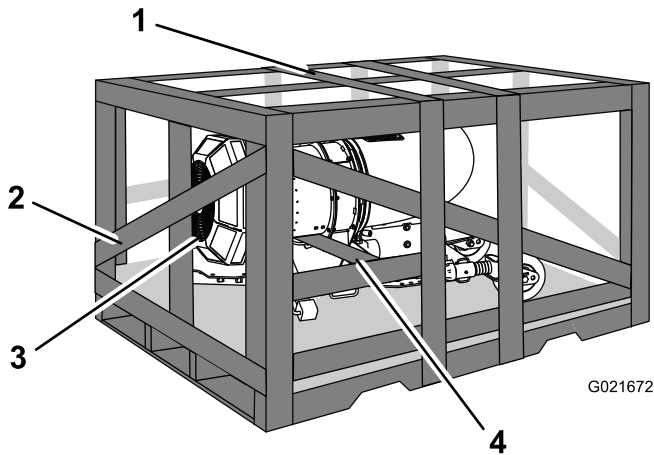

Figure 3
1. Remove the top of the crate (Figure 3).
2. Remove the end of the crate which is toward the top of the machine (Figure 3).
3. Remove the board that is under the blower housing (Figure 3).